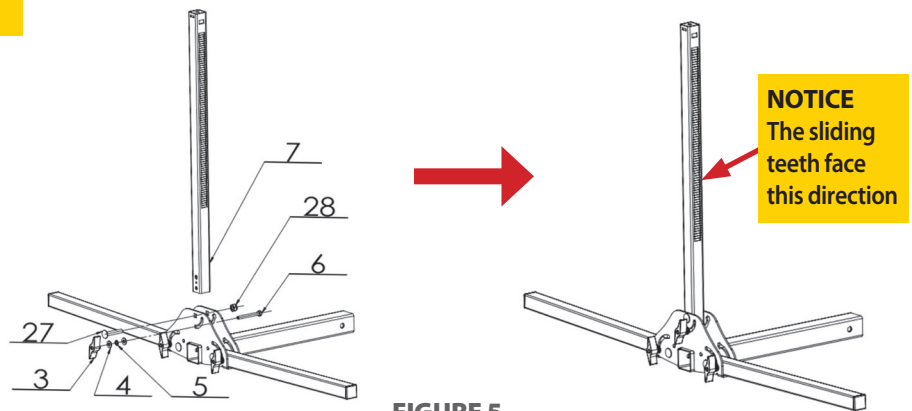

FIGURE 5
Repeat step 2, placing Vertical Arm (part #7) on the Long Support Base, using 5/16" knob, (2) 5/16" flat washer, 5/16" spring washer, 5/16" hexagon bolt, M10 Carriage Bolt and M10 Locknut (parts #3, #4, #5, #6, #27 and #28). (See **Figure 5**)